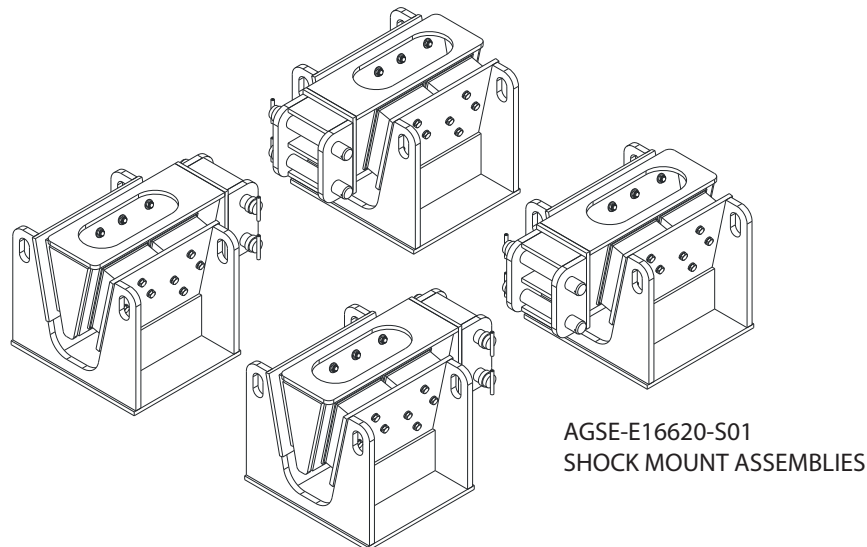

Figure 3.7-3 Shock Mount Assembly
3.7.3 Shock Mount Kit (Figure 3.7-3)